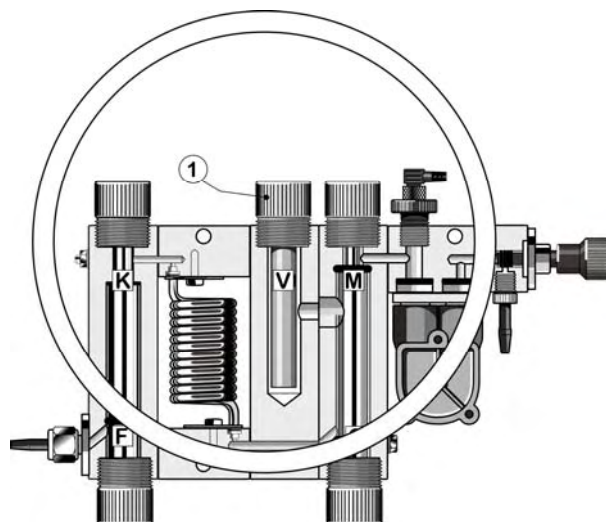

Figure:3.1
1. Unscrew the reference electrode (1) from the analyser block (Figure3.1).